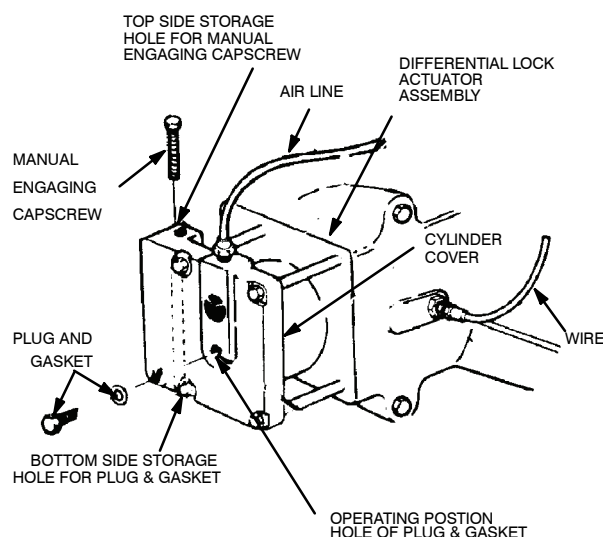

Figure 105.
- (13) Clean the plug, gasket, cylinder cover, and threaded hole in the center of the cylinder cover.
- (14) Install the plug and gasket into their operating position in the cylinder cover. Install the manual engaging capscrew into its storage position. See Figure 105.